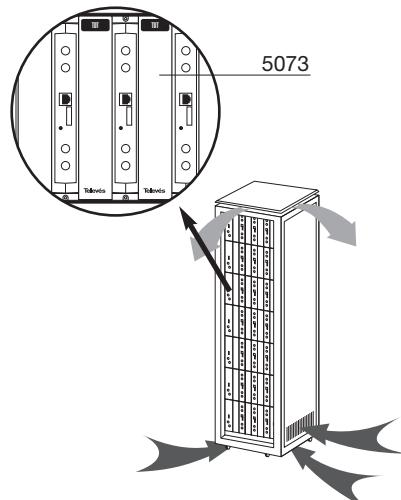

fig. 39
To mount the units on a rack with ventilation, it is obligatory to mount blank plates ref. 5073 between the modules so that they are correctly ventilated, fig. 39.